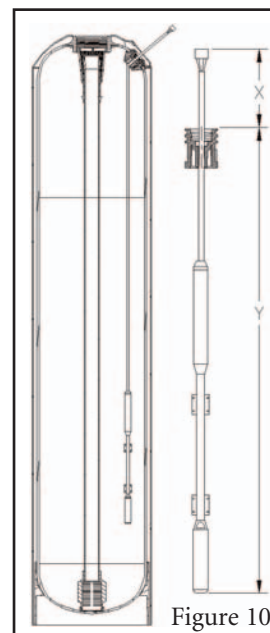

Figure 10
3. Install the outlet manifold into the tank (Figure 10).
- A. Measure the sensor cable length as shown in Figure 10 and Table 1.